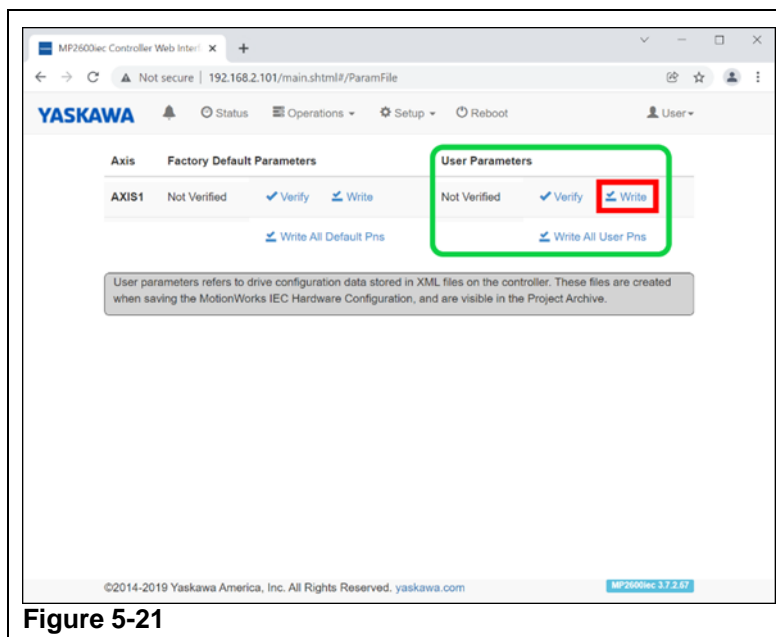

Figure 5-21
- iii. Make sure to use the "Write" command under 'User Parameters' column and **NOT** the one under the 'Factory Default Parameters' column. (Refer to Figure 5-21)